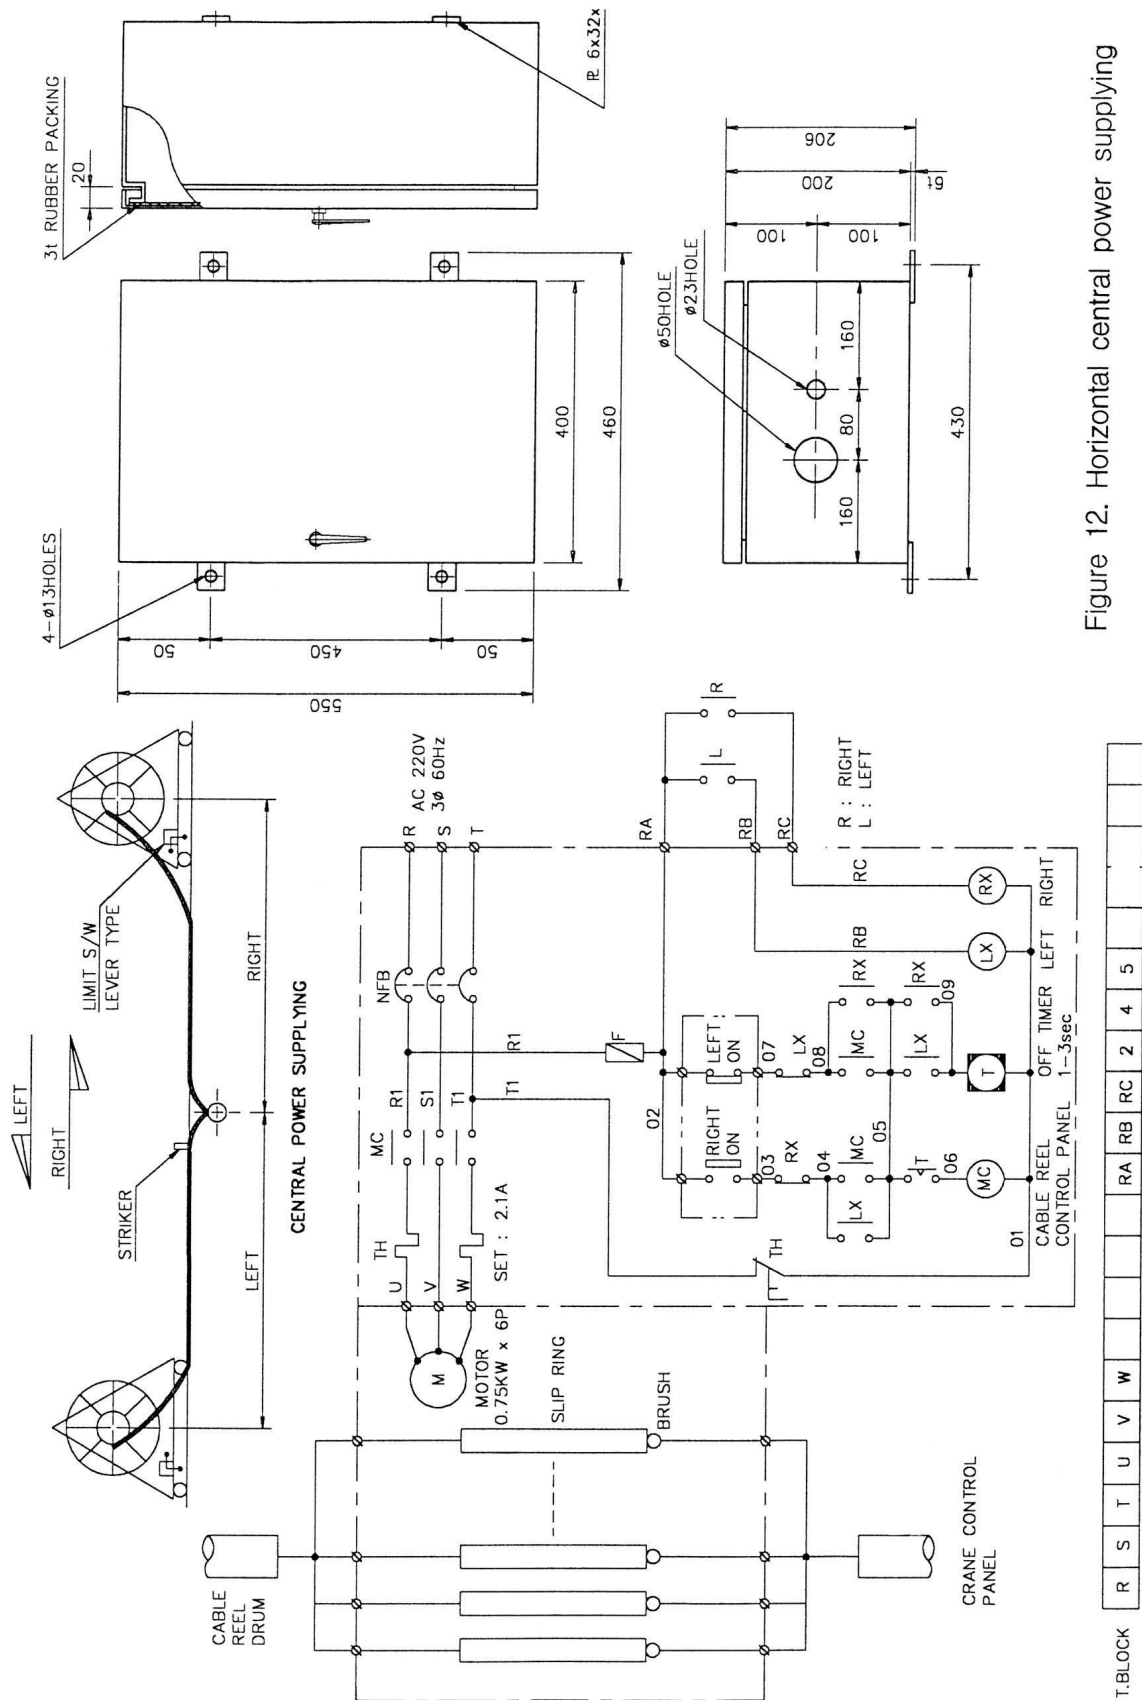

Figure 12. Horizontal central power supplying
8. 3 HORIZONTAL CENTRAL POWER SUPPLYING (Figure 12)